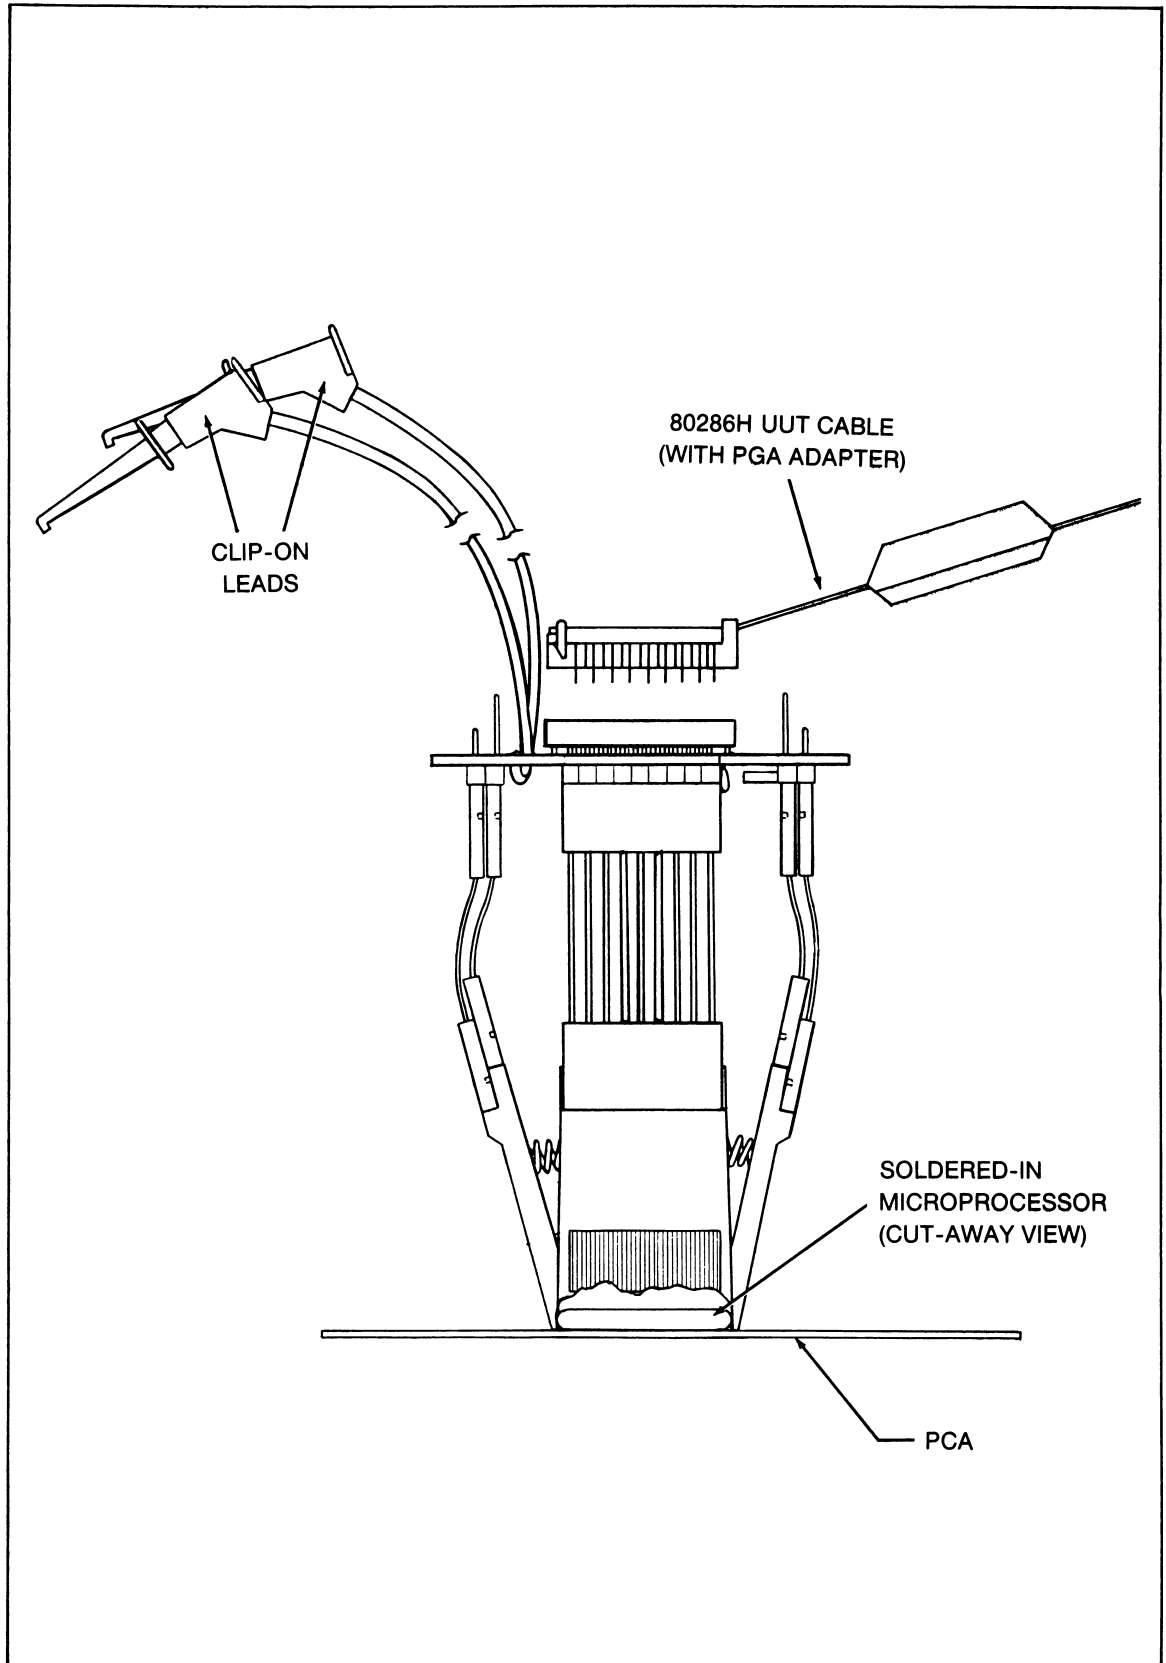

Figure C-2. Connecting the Pod Plug to the PLCC Adapter
- a. Insert the pins of the Pod plug into the socket on the adapter (as shown in Figure C-2). Make sure that pin 1 of the Pod plug is aligned with pin 1 of the adapter.